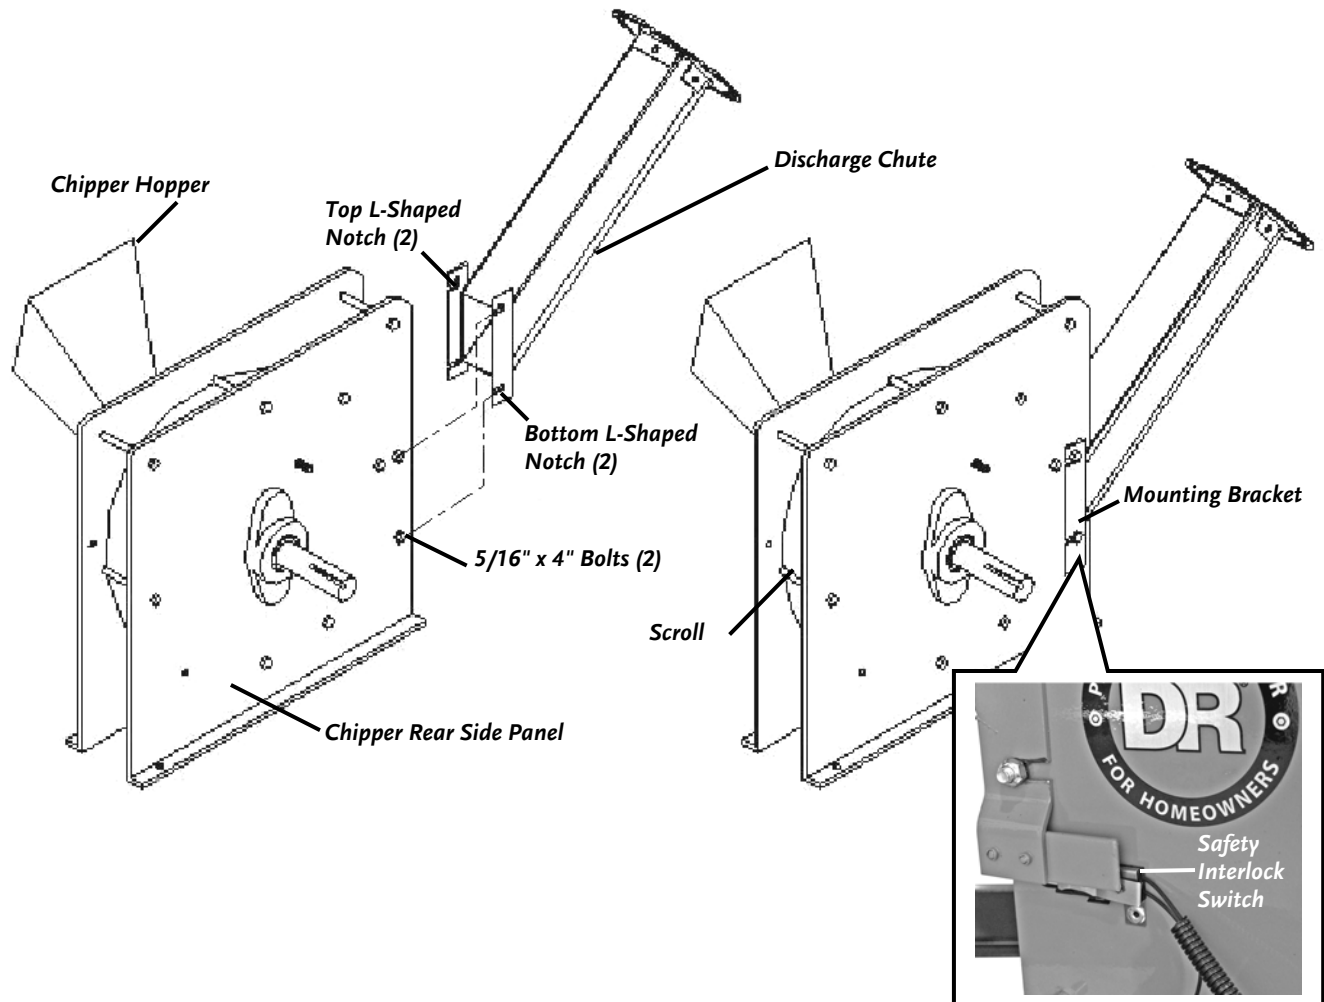

Figure 3
1. Loosen the two (2) 5/16"-18 x 4" Bolts on the Chipper Rear Side Panel (**Figure 3**) just enough so that the top L-shaped notches in the Mounting Plates on the Discharge Chute will slide onto the Bolt. You may have to slightly tap the Nut side of the Bolt to center it before the Discharge Chute can easily slide into place.
2. After the top L-shaped notches are in place on the Bolt, pivot the Discharge Chute down so that the lower slots slide over the lower Bolt as shown in **Figure 3**.
3. Once the Discharge Chute is in place on the Bolts, securely tighten the two (2) Lock Nuts.